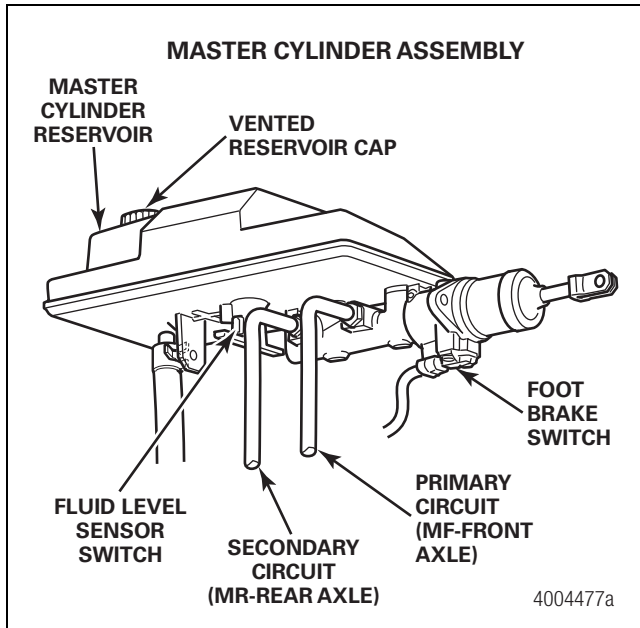

Figure 4.48
4. Connect the fluid level switch on the master cylinder reservoir. Figure 4.48.